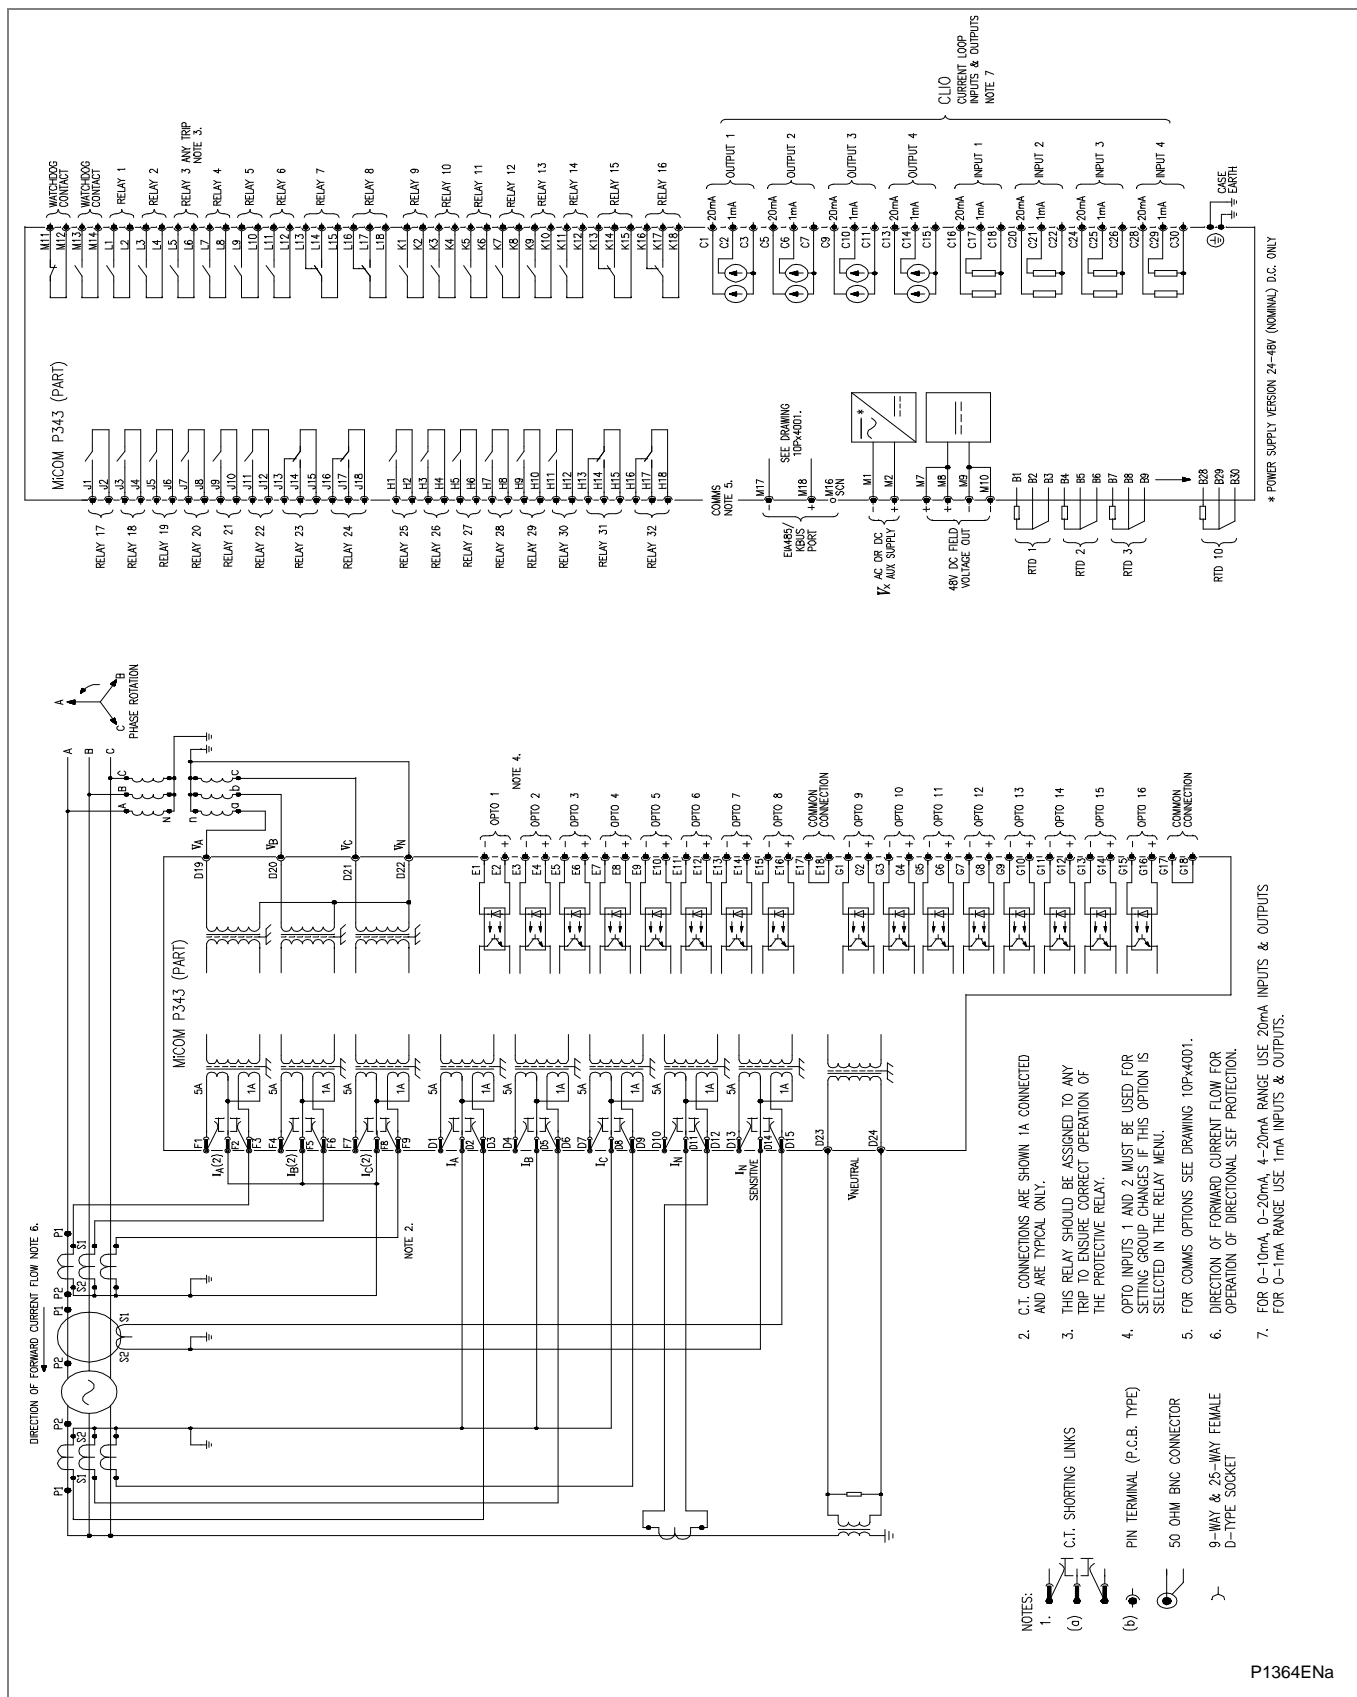

Figure 38 - P343 (80TE) with biased differential (16 I/P & 32 O/P & RTD & CLIO)
- Figure 38 - P343 (80TE) with biased differential (16 I/P & 32 O/P & RTD & CLIO)